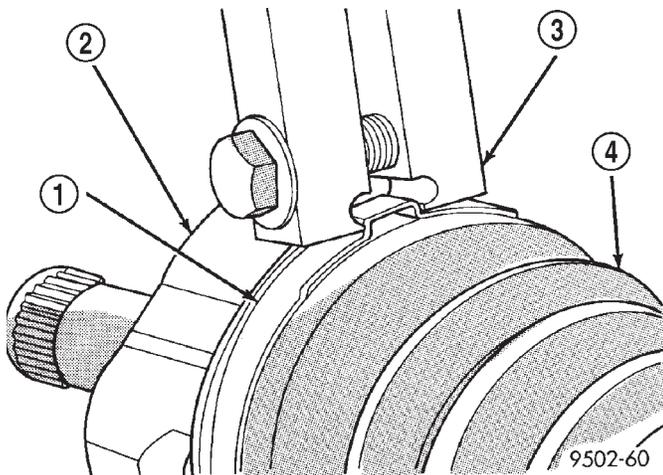
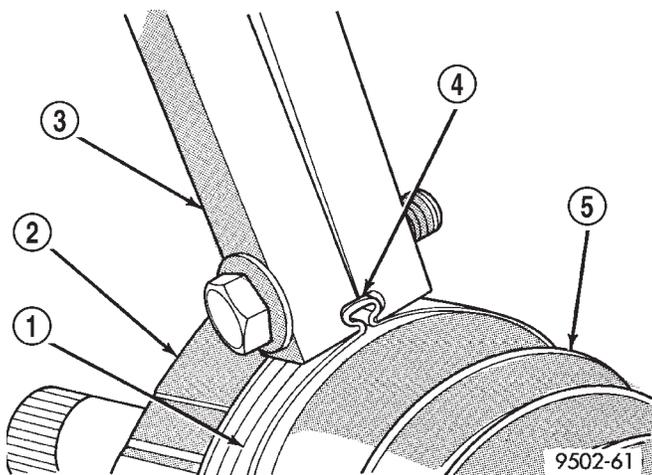

Fig. 32 Crimping Tool Installed on Sealing Boot Clamp
Fig. 33 Sealing Boot Retaining Clamp Installed
(11) Clamp tripod joint sealing boot to tripod joint using required procedure for type of boot clamp application. If seal boot uses crimp type boot clamp, clamp sealing boot onto tripod housing using crimper, Special Tool C-4975-A. Place crimping tool C-4975-A over bridge of clamp (Fig. 32). Tighten nut on crimping tool C-4975-A until jaws on tool are closed completely together, face-to-face (Fig. 33).